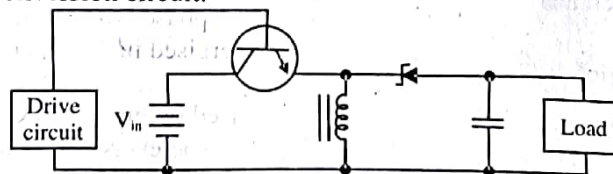

Figure 4.13
- 3) **Inverting" converter circuit:** The schematic figure 4.13 shown here is for an "inverting" converter circuit, a type of DC-DC "switching" power conversion circuit.